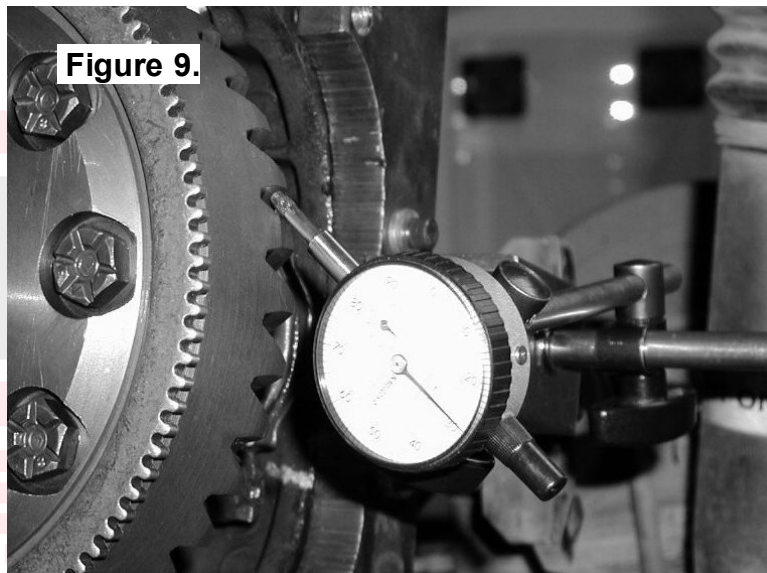

Figure 9.
- Set a depth indicator on one of the ring gear teeth as in figure 9.